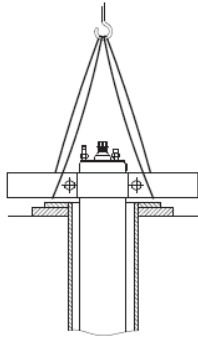

Fig. 2: **Motor in vertical position**
- Place the motor in a vertical position on the borehole seal, see Figure 2.